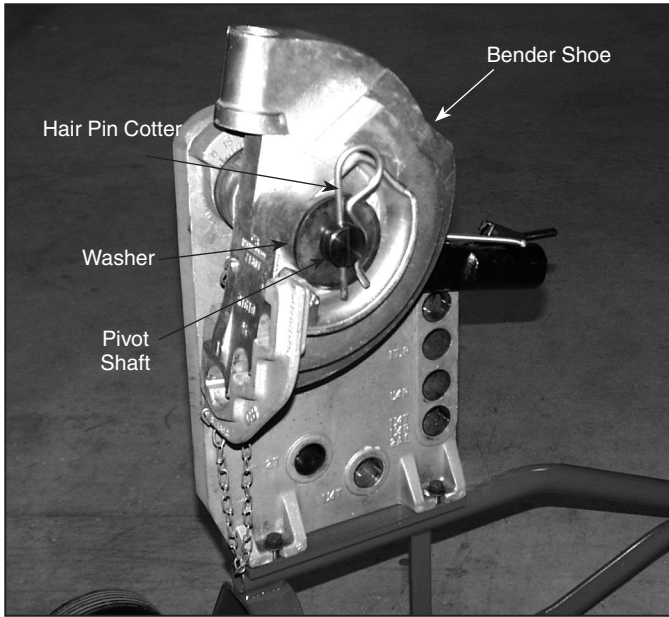

Fig. 5
- Slide the shoe on the shaft and secure it with the large washer and hairpin cotter, figure 5.